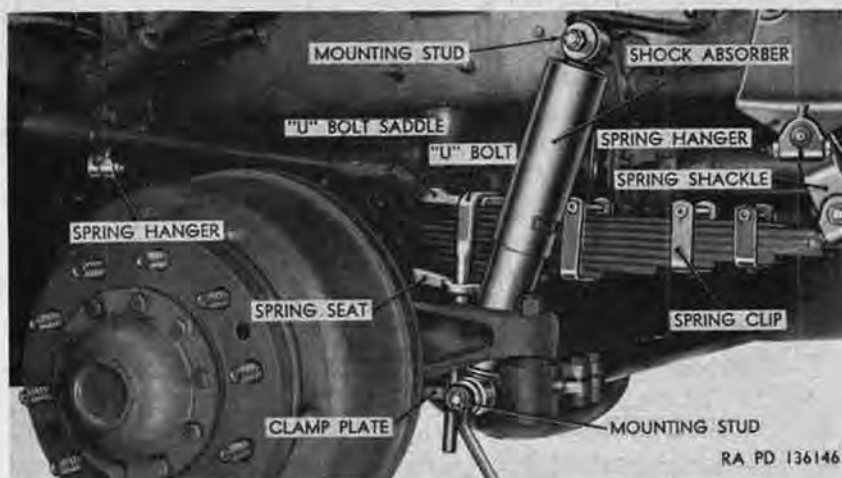

Figure 270. Left front spring and shock absorber—installed.
- (1) *Front springs.* Two semielliptic-type springs, one on each side, are mounted with the arch down at the front of the vehicle (fig. 270). An eye at the rear end of each spring is pinned to a shackle which is pivoted on a hanger attached to the frame side rail. This permits the rear end of the spring to move within the limits of the arc of travel of the shackle. An eye at the front end of each spring is pinned to a hanger attached to the frame side rail. The spring leaves are held together as an assembly by a bolt through the center of each leaf, and the leaves are held in alinement by six clips. The front axle is secured to each of the front springs by a pair of U bolts and clamp plates.
- (3) *Shock absorbers.* Two nonadjustable, double-acting shock absorbers (fig. 270), one on each side, are mounted at the front of the vehicle. The upper end of each shock absorber is secured by a safety nut and washer to a stud, which is
(fig. 270)